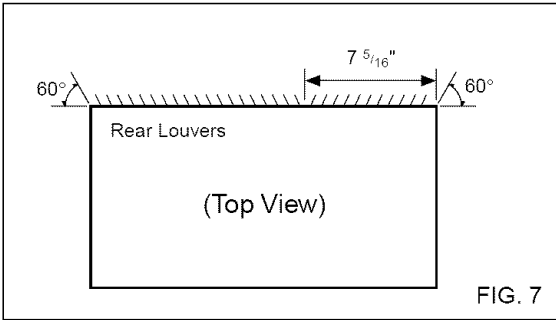

FIG. 7
- 1 Redirect the louvers at the back of the wall sleeve to 60° angle as shown in the FIG 7. The use of pliers is recommended.